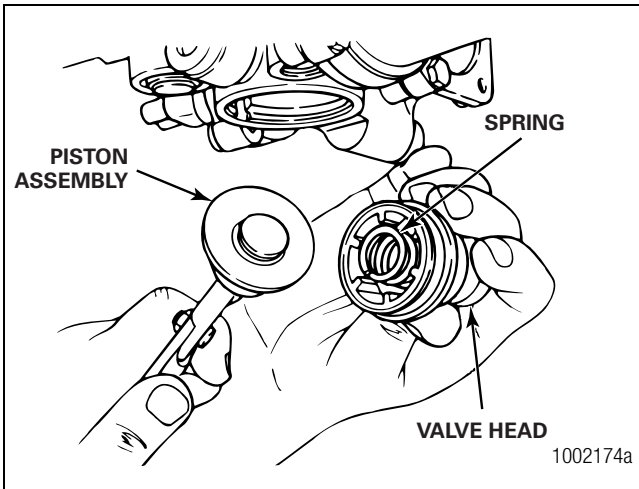

Figure 3.14
- Remove the piston assembly from the base. Figure 3.14.